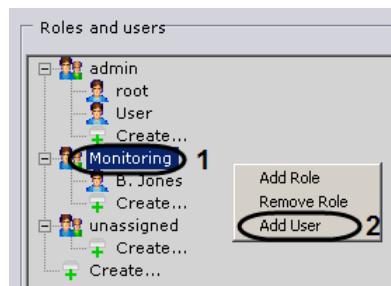

Fig. 6.12—4 Registering a user
1. Select a role in the user tree (Fig. 6.12—4, 1).
2. Bring up the context menu of the user tree by right-clicking with the mouse (see Fig. 6.12—4, 2).